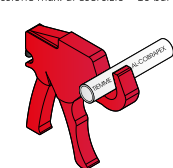

FIG. 1
- First, cut the pipe to the desired size by using a pipe-cutter, making sure that pipe cutting is perpendicular to pipe axis (fig. 1).